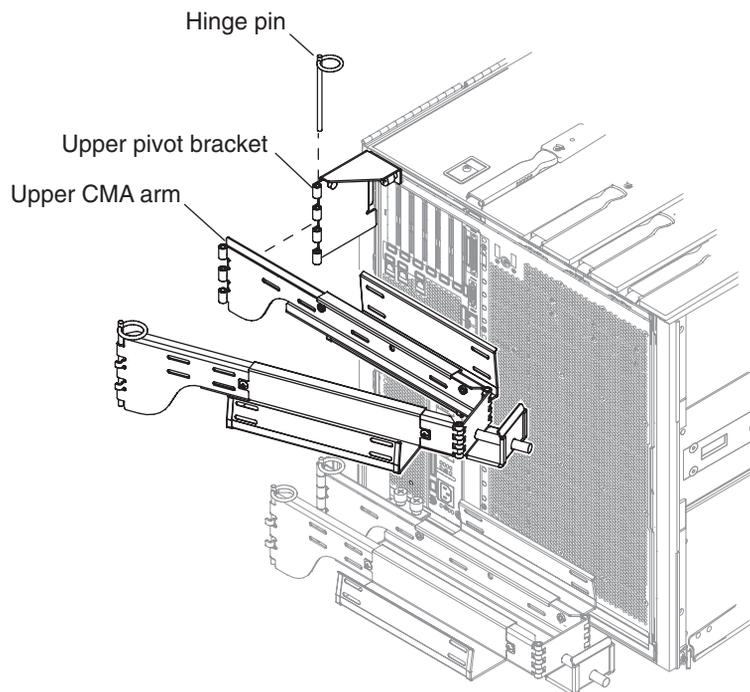

FIGURE 14-8 Attachment of Upper CMA Arm and Pivot Bracket
4. After attaching the pivot bracket to the chassis, use the hinge pin removed previously to secure it to the upper CMA arm, FIGURE 14-8.